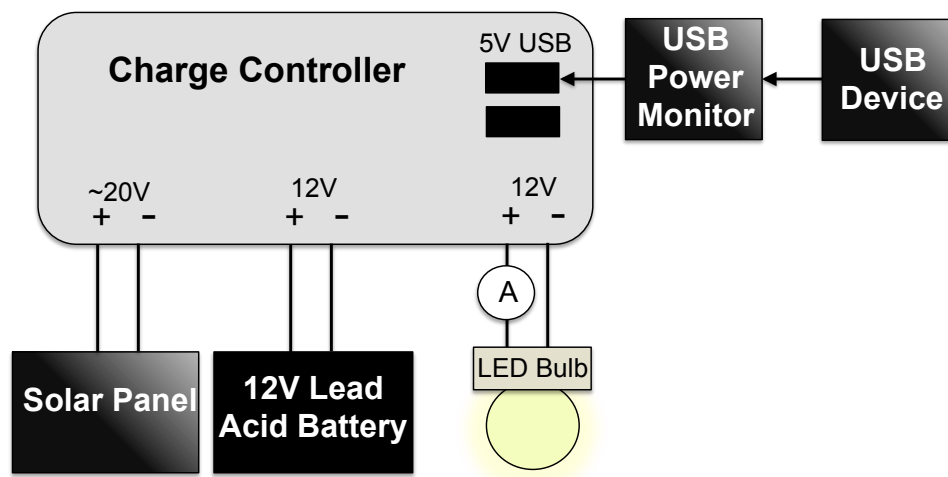

Figure 1: A schematic of the Solar Microgrid.
This week, you will create your own “Solar Microgrid”. The microgrid consists of the solar panel, a 12V lead acid battery, and a charge controller, as shown below in Figure 1. Solar panels obviously do not produce energy at night, so the 12V battery is used to store energy produced during the day. Directly connecting ~20V DC output of the solar panel to charge the 12V battery would damage it, so the charge controller is used to step down the 20V DC to 12V DC. Additionally, the charge controller contains two 5V USB outputs for charging and powering various consumer electronics.
1. Sketch the schematic shown in Figure 1 in your lab notebook.
- b) Locate the handheld DMM with mini-grabber cables in the 10A socket. Connect the other end of the DMM cables to the wire in the charge controller and the other DMM cable to the red light bulb wire, such that the DMM is **in series** with the LED bulb, as shown in Figure 1. Switch the DMM knob to the 10A current setting.